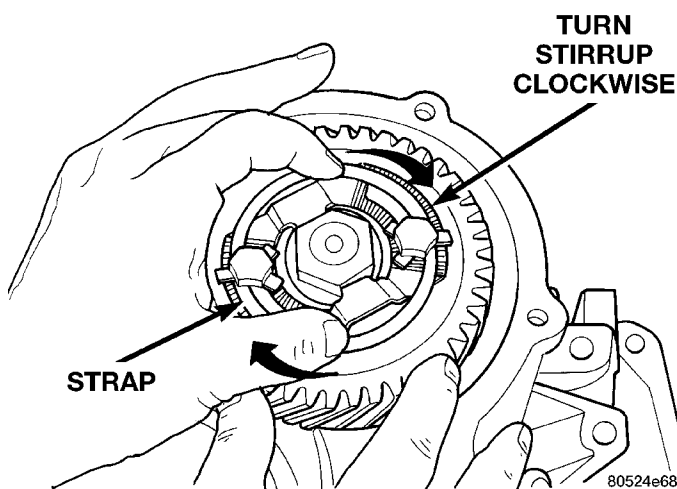

Fig. 179 Turn Stirrup Clockwise Against Flats Of Retaining Nut
- (1) Position the stirrup on the output gear.
- (2) Position strap.
- (3) Install retaining bolts into output gear. Finger-tighten bolts.
- (4) Turn stirrup clockwise against the flats of the output gear retaining nut (Fig. 179).